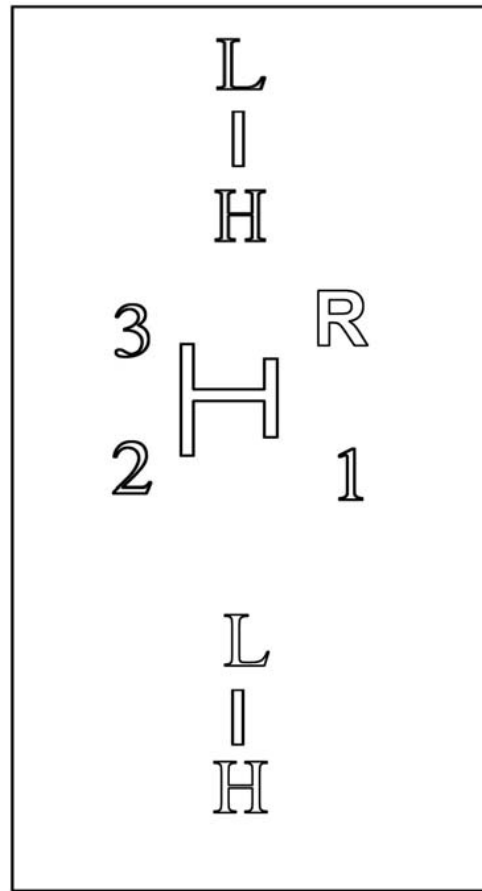

Fig.2-2 Diagram of shifting lever position
- 1) Auxiliary gear shifting lever: To control the auxiliary speed gear. (Fig.2-2).**
- 2) Main gear shifting lever: To control the main speed gear. (Fig.2-2).**